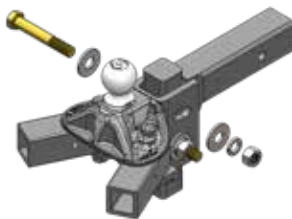

Figure 4
4. Use the $\frac{3}{4}$ " bolts, flat washers, lock washers and nuts to secure the head to the shank at the correct height. Hand tighten the nuts. (Figure 4)